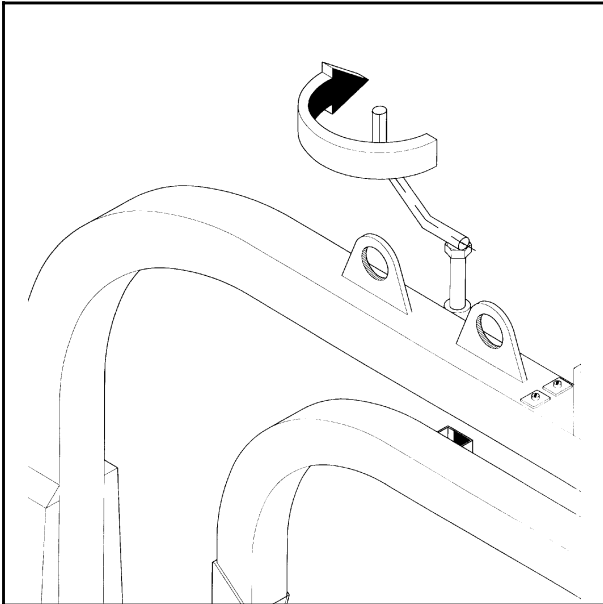

Fig. 4-14
6. Remove the locking bolt that holds the wrapping arm to the frame during transport.(Fig. 4-14 and Fig. 2-7)If necessary unfold and lock the extra wrapping arm on a TWIN machine. Do the same with the cutter beams. (See section 2.10 and figs. 2.7, 2.8, 2.9 and 2.10.)